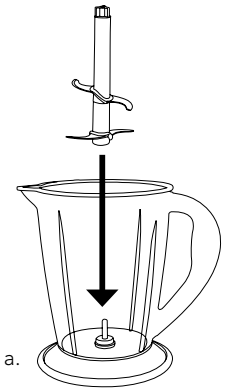

FIG. 1a.
1. Assemble the vortex 4 blade for blender over the pin in the blender jug as shown in Fig.1a.